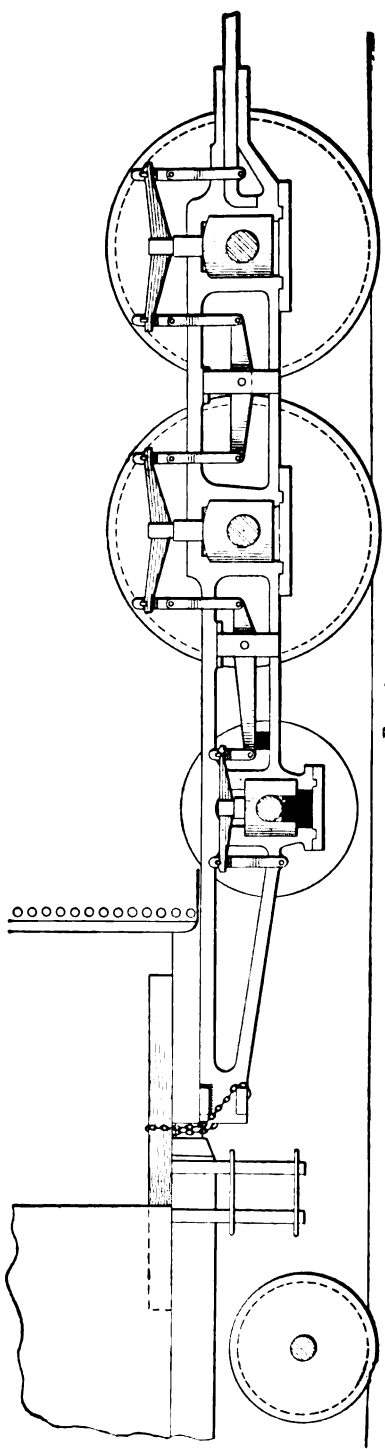
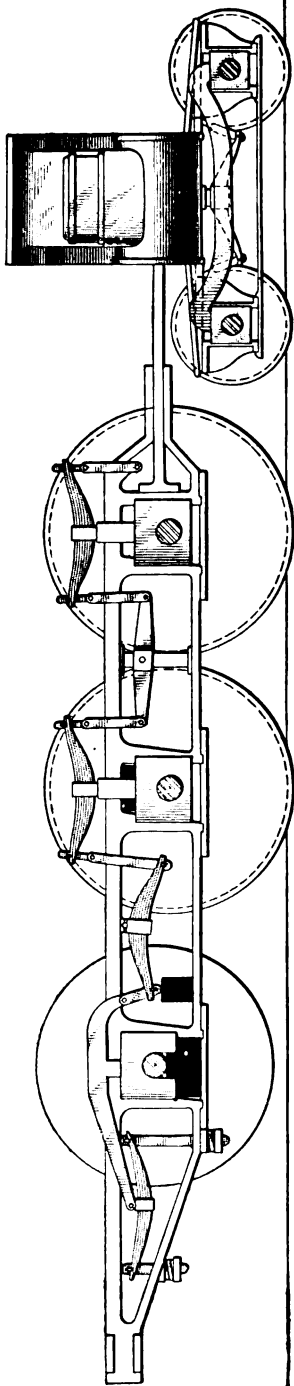

FIG. 40.
FIG. 49.
**80.** When the tire on the trailer wheel of an Atlantic type engine breaks, it is necessary to swing that wheel and carry it clear of the rail; then, since the main driver is so far forwards, some means must be provided to prevent the back end of the engine settling on that side. To swing the wheel, proceed as follows: Run the trailer wheel up on a wedge until the wheel is raised slightly higher than its normal position. Remove the oil cellar and fit a block between the bottom of the trailer box and the pedestal brace; then fit a block in place of the oil cellar so as to carry the wheel in its raised position. Next, in order to relieve the box of the weight it usually carries, pry up the back end of the equalizer and place a block between the end of the equalizer and the bottom bar of the frame, as shown in Fig. 40, so as to hold it in position. The weight will now be carried by the drivers, and as there is a long overhang on that side, the back end of the engine will settle considerably. In order to hold the engine in position, take a piece of tie and place it as far back in the cab as possible, on the side that is disabled, allowing it to extend over on to the deck of the tank a short distance, as is shown in the figure. Next pass a chain around the tail-piece of the engine and around the tie, and after raising the back corner of the engine slightly higher than its normal position by means of a jack-screw, hook the chain as tightly as possible and wedge between the chain and the tie to prevent the end of the engine settling when the jack is removed. If a tie cannot be obtained, any stout bar of steel or iron that will stand the weight that will be thrown upon it may be used. Before proceeding, cut out the engine brake.
If the spring rigging is so constructed that the back equalizer passes over and rests on the back driving box, as shown in Fig. 49, it is impossible to so block between the spring saddle and the frame as to throw the load on the frame, and, consequently, it will be necessary to block between the back end of the spring that is in front of the wheel between the bars of the frame, as shown, so as to make the frames carry the load instead of the box. The driver brake must be cut out also, as in previous cases. If the back end of the engine settles considerably when blocked up in this way, raise that end, and block between the main driving box and the frame in order to make the engine rigid on that box. Also, it may be necessary to chain up the back end of the engine as shown in Fig. 40.